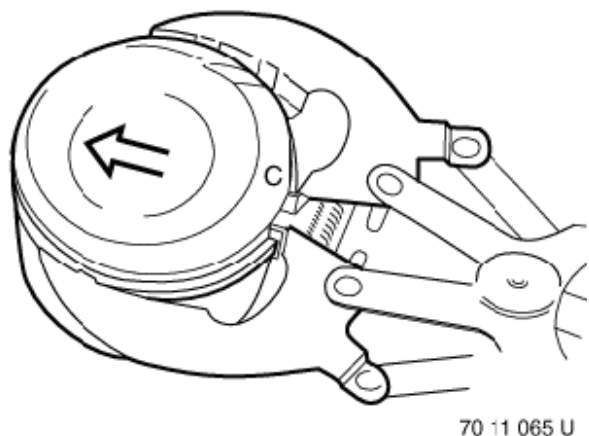

Figure 5-48
13. Use a piston ring expander (**Figure 5-48**) to remove the piston rings, taking care not to scratch the surface of the piston.